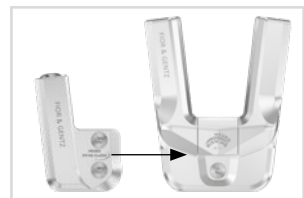

fig. 31
- 4 Mount the functional unit of the desired system joint in the correct system width (see example fig. 31).